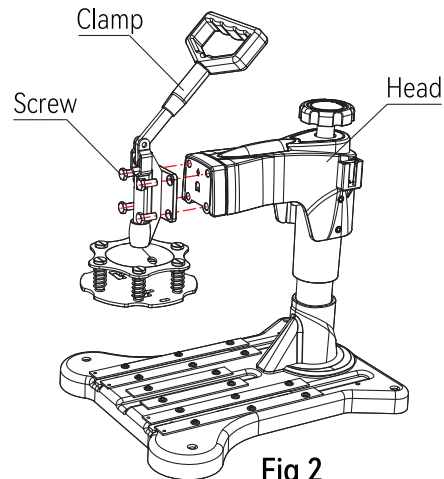

Fig 2
2. Pass the four screws through the quick clip and adapter, then screw them securely to the machine head, and use a wrench to lock the screws (as shown in figure 2).